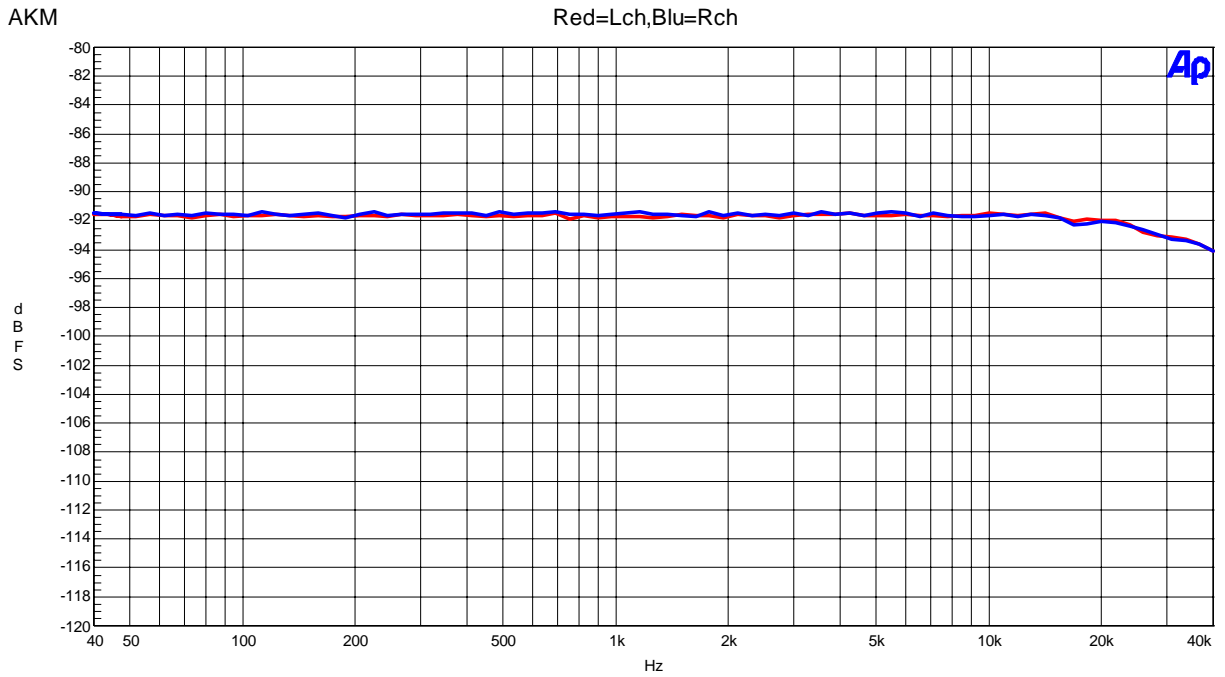

Figure 13. THD + N vs Input Frequency (Input Level=-0.5dBFS)
- Figure 13. Frequency Response (Input Level=-0.5dBFS)